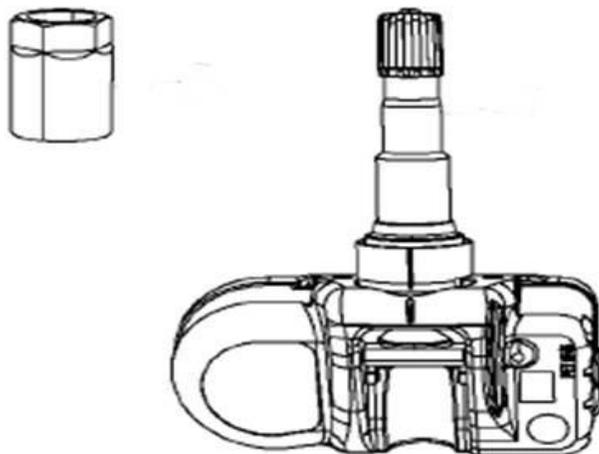

Fig. 2 Steel Valve Stem
- b. No >>> If all of the valve stems are steel (Fig. 2), Proceed to Step #2.